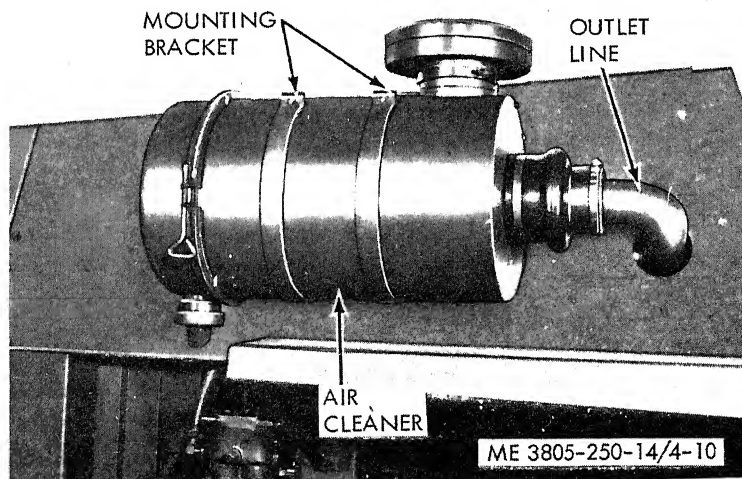

Figure 4-10. Air cleaner, removal and installation.
*b. Removal* (fig. 4-10).
- (1) Loosen the clamp securing the outlet line to